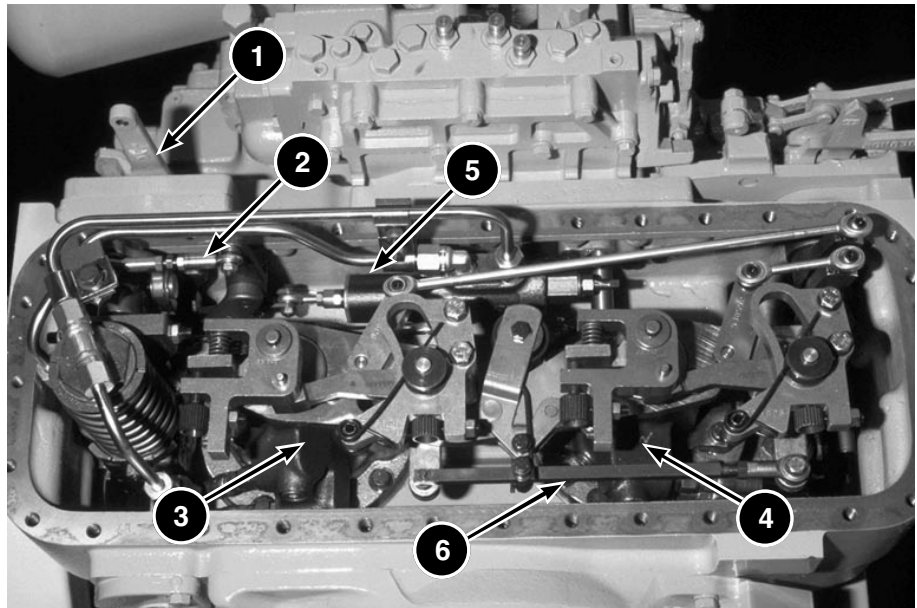

Fig. 3.5.4 953/953B Track Loader Servo Control Linkage
Figure 3.5.4 shows the servo control linkage for the 953/953B. The control linkage for the HPCU is located below the hydrostatic power control unit (HPCU) top cover. The FORWARD-PARK-REVERSE (FPR) lever (1), directs operator input to the pilot link (2), the direction/speed link (hidden) and pilot valve (5). When the FPR lever is moved to the BRAKES OFF, FORWARD or REVERSE positions, the underspeed valve moves up and the direction/speed link moves the left servo valve (3), which then moves the right servo valve (4) through the combination sync link/centering spring (6).